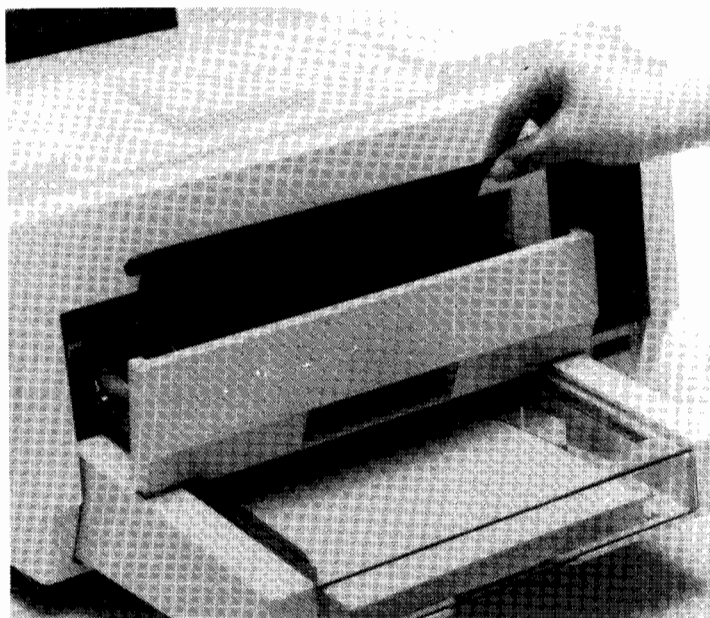

Figure 3-11. Opening Toner Inlet Cover
- b. Open the toner inlet cover (black) as shown in figure 3-11.